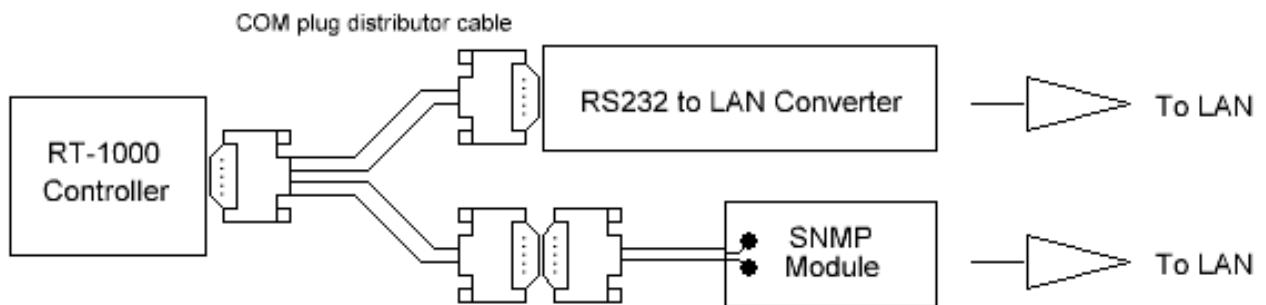

Figure 3: Connection of SNMP Module to RT-1000 system
- COM plug distributor cable (s. Figure 3)
1. Connect the RS232 interface of the SNMP Module to RS232 interface of the RT-1000 (s. Figure 3).